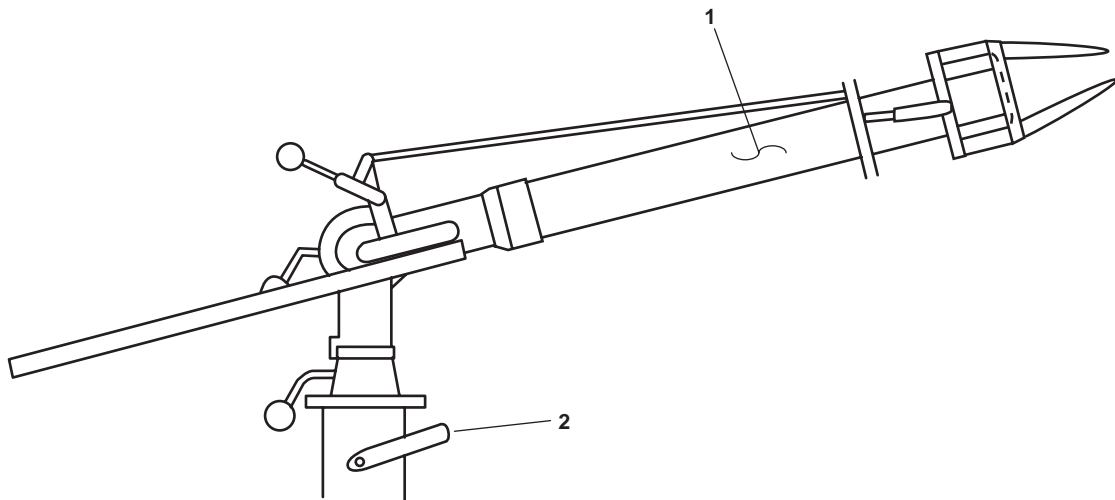

Figure 16. Fire Monitor
6. Direct (aim) the monitor (figure 16, item 1) to place foam/water at the base of the fire.
7. OPEN the cutoff valve (figure 16, item 2) for the desired monitor.
1. If AFFF was discharged, keep the fire monitor cutoff valve (figure 16, item 2) OPEN and maintain output flow until clear raw water is discharging from the fire monitor (figure 16, item 1).
2. CLOSE the fire monitor cutoff valve (figure 16, item 2) for the desired monitor.